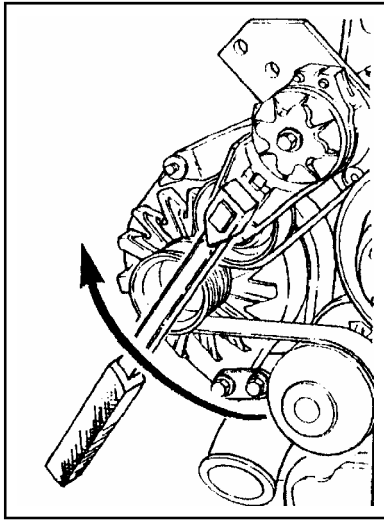
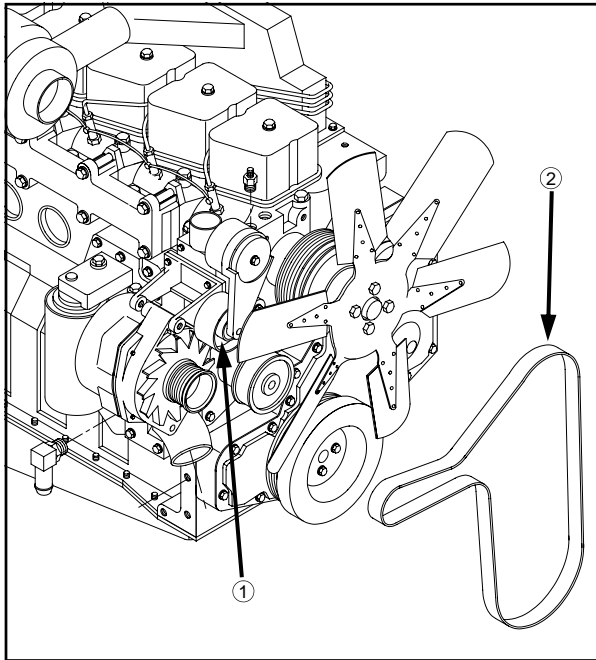

FIG 8.41
FIG 8.42
REMOVAL - Insert a 3/8 inch square ratchet drive (fig. 8.41) into the belt tensioner (fig. 8.42, item 1) and lift upward to remove the belt (fig. 8.42, item 2).